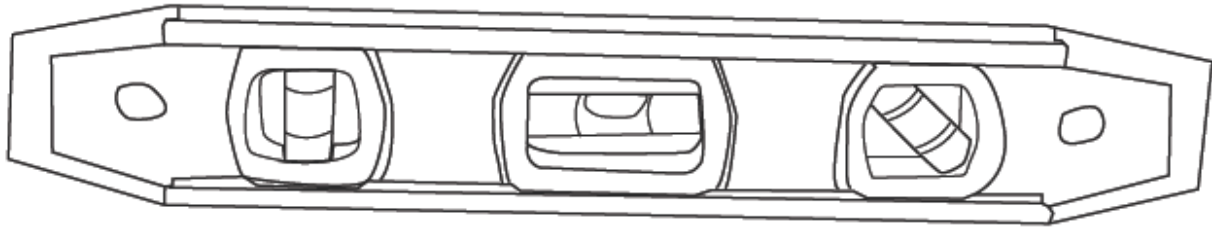

Figure 18
- 18)** Adjust the top runway of the slide so that it is level, from side to side and lengthwise as shown below in Figure 18.